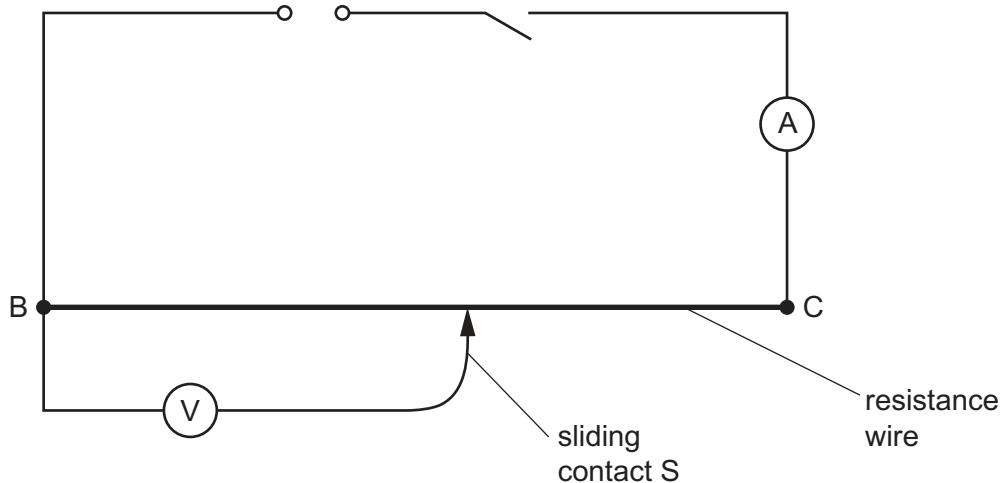
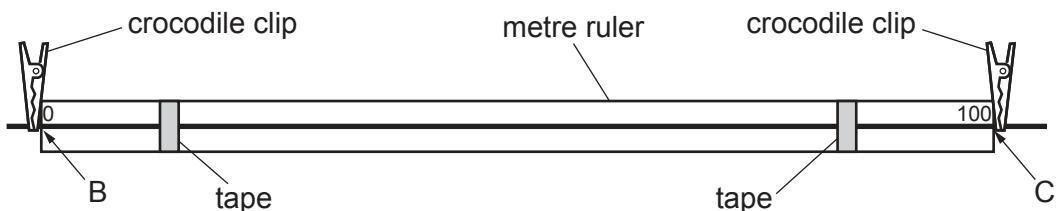

Fig. 2.1
Fig. 2.2
- (vi) Two suitable terminals (e.g. crocodile clips) attached to the constantan wire at the ends of the metre ruler so that connections can be made to the circuit (see Fig. 2.1 and Fig. 2.2). The terminal at the zero end of the ruler is to be labelled 'B'. The terminal at the 100 cm end of the ruler is to be labelled 'C'.
- (viii) Sufficient connecting leads to set up the circuit shown in Fig. 2.1.
- The circuit is to be set up for the candidates as shown in Fig. 2.1.
- The wire must be attached to the metre ruler as shown in Fig. 2.2.
Check that the circuit is arranged as shown in Fig. 2.1.